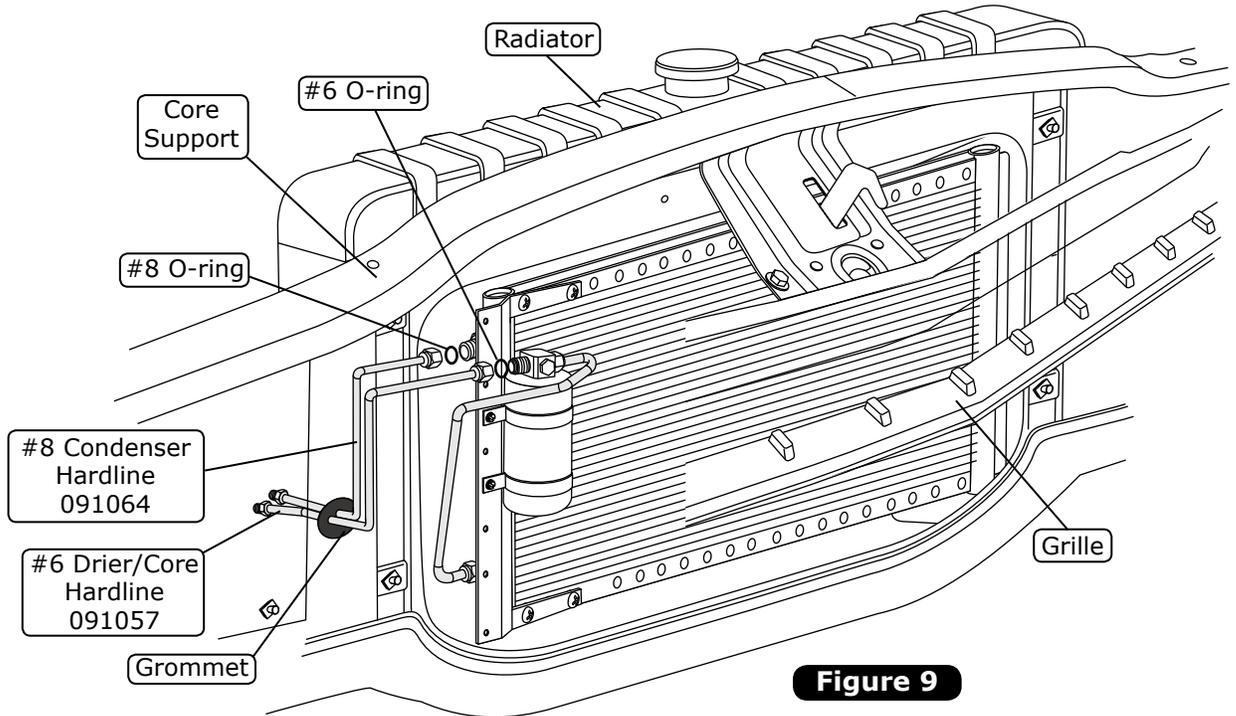

Figure 9
1. Install the grommet into the core support (See Figure 9, below).
2. Lubricate a #6 O-ring and a #8 O-ring (See Figure 5, Page 10), and install the #6 drier/core hardline and the #8 condenser hardline as shown in Figure 9, below. Tighten fittings as shown in Figure 5, Page 10.